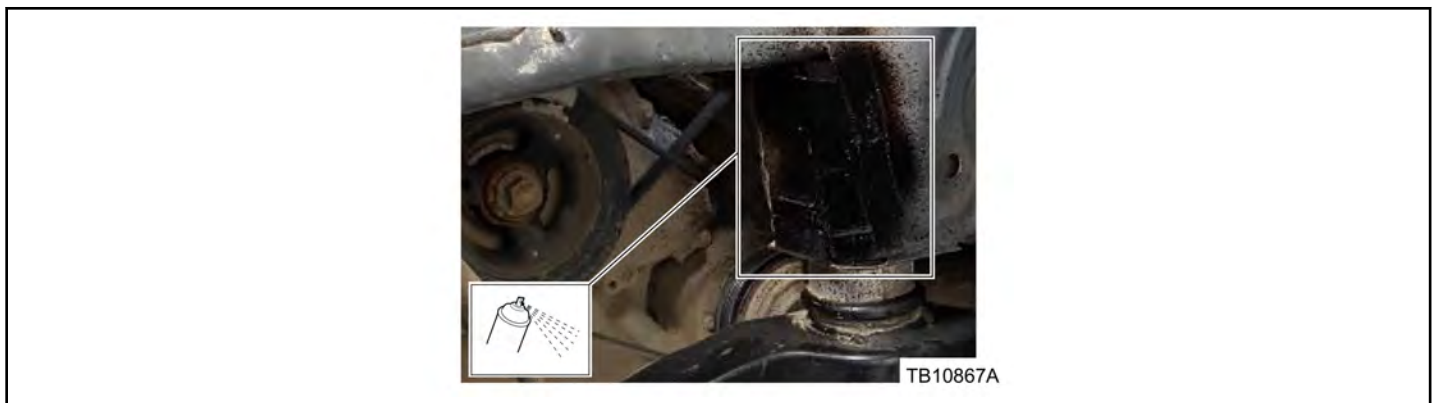

Figure 6 - Article 16-0021
13. Apply ValuGard™ Premium Undercoating, or equivalent corrosion protection to the repaired cut line area. Refer to WSM, Section 501-25. (Figure 6)